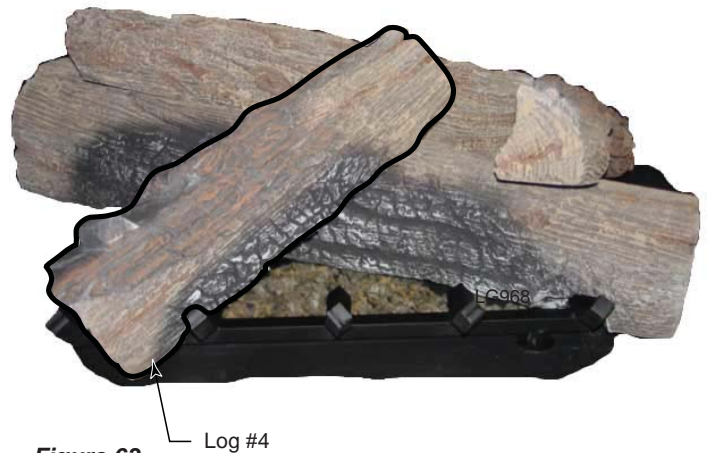

Figure 63
4. On the remaining key on the top of log #1 (in the center), place log #4 with the charred area of the log facing down and toward the nearest glass. The other end of the log rests on the second tine from the end closest to the pilot. *Figure 63*